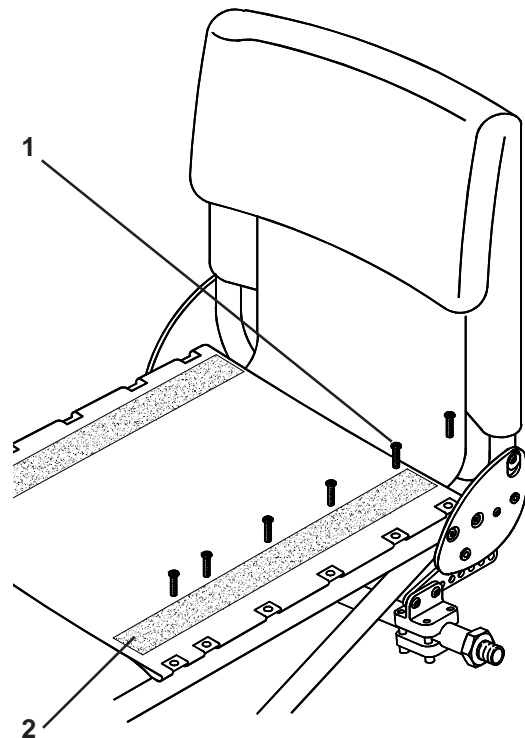

Fig. 31
The seat sling (Fig. 31) can be re-tensioned through the use of Velcro® panels underneath the seat (2). Remove the No 2 Philips screws (1) retaining the left side of the seat sling with a No 2 Philips screwdriver, re-adjust the Velcro® to bring the sling to its correct tension. Replace the screws and tighten to 5-8Nm torque.